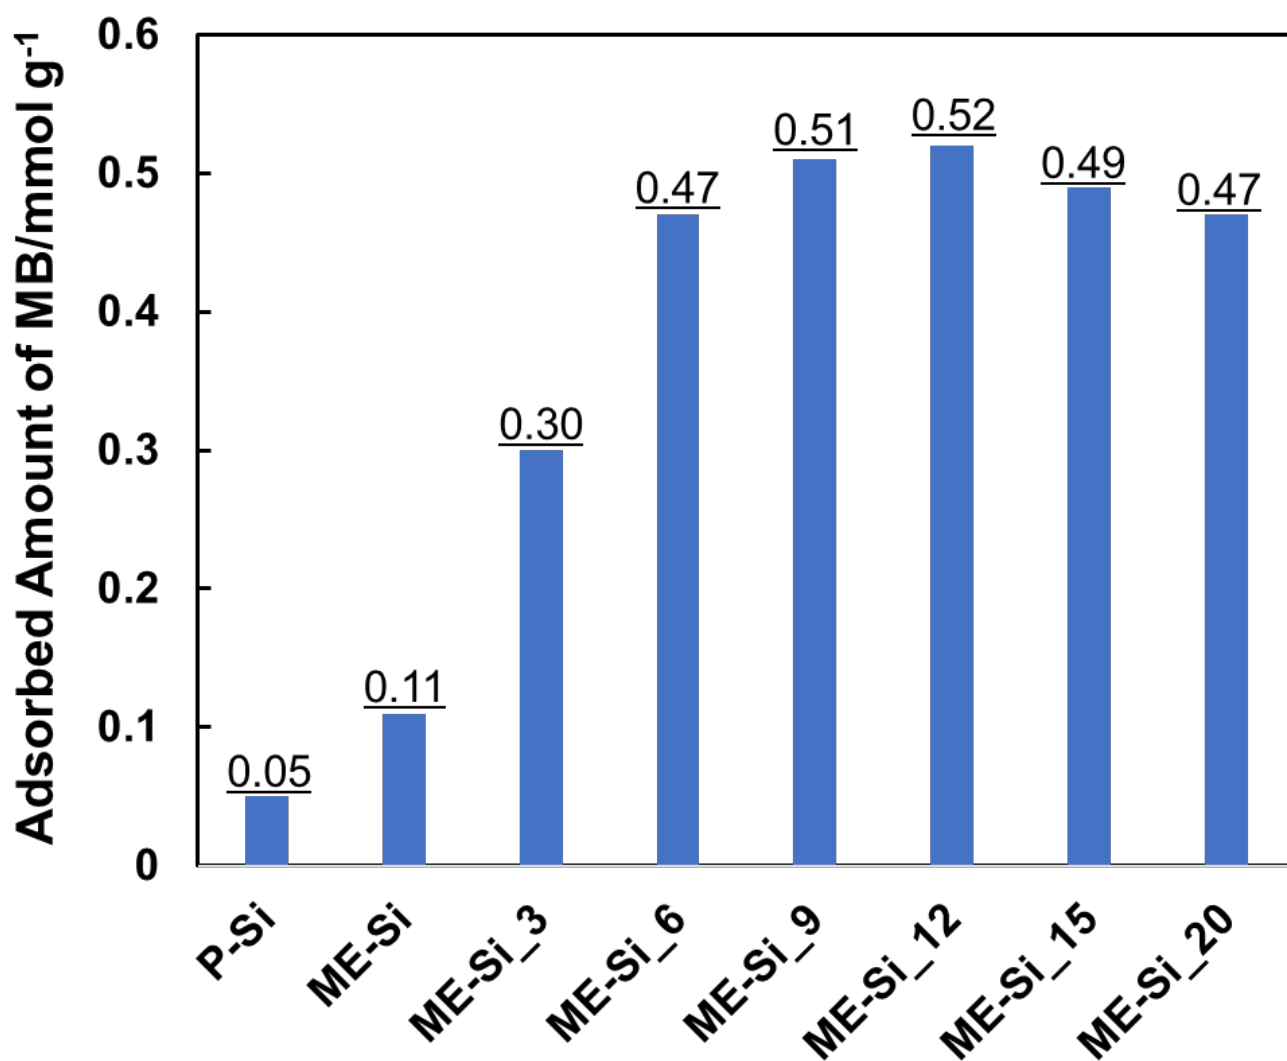

Fig. S7. Adsorbed amount of MB on products obtained from aqueous solutions at room temperature.
- Adsorbed amount of MB on the products obtained at different MgCl₂ and LiF concentrations (Fig. S7)